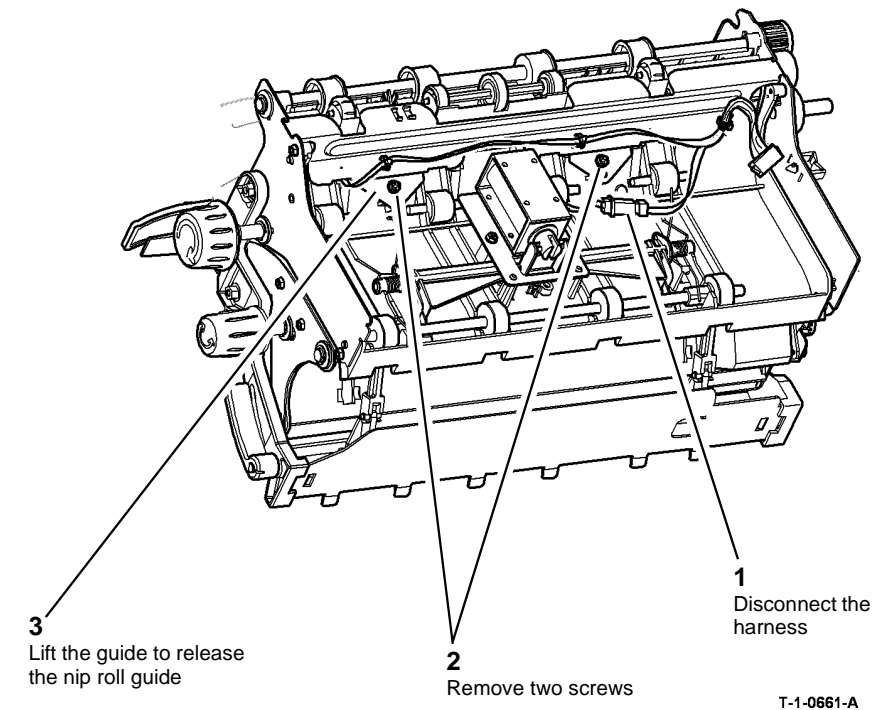

Figure 1 Release nip roll guide
2. Release the nip roll guide, Figure 1.